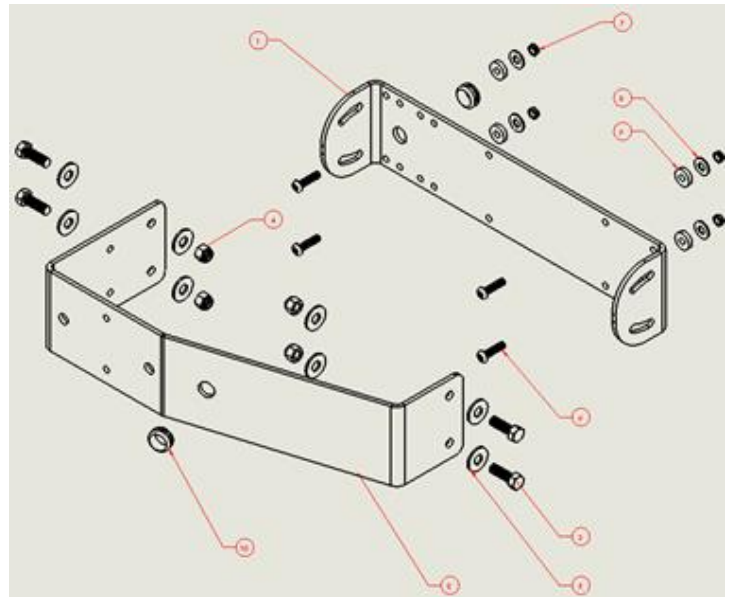

Figure 1
- The Components are shown in figure 1.